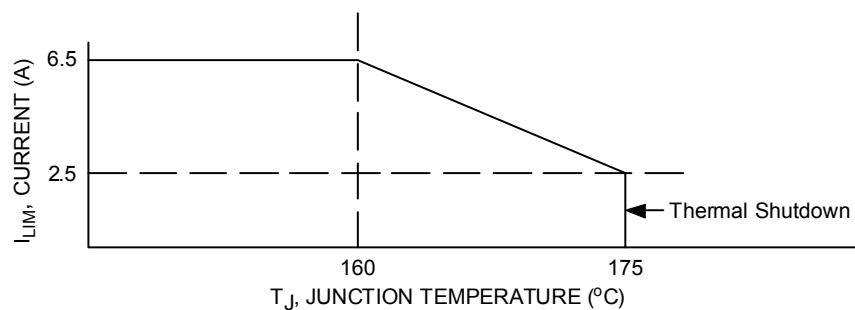
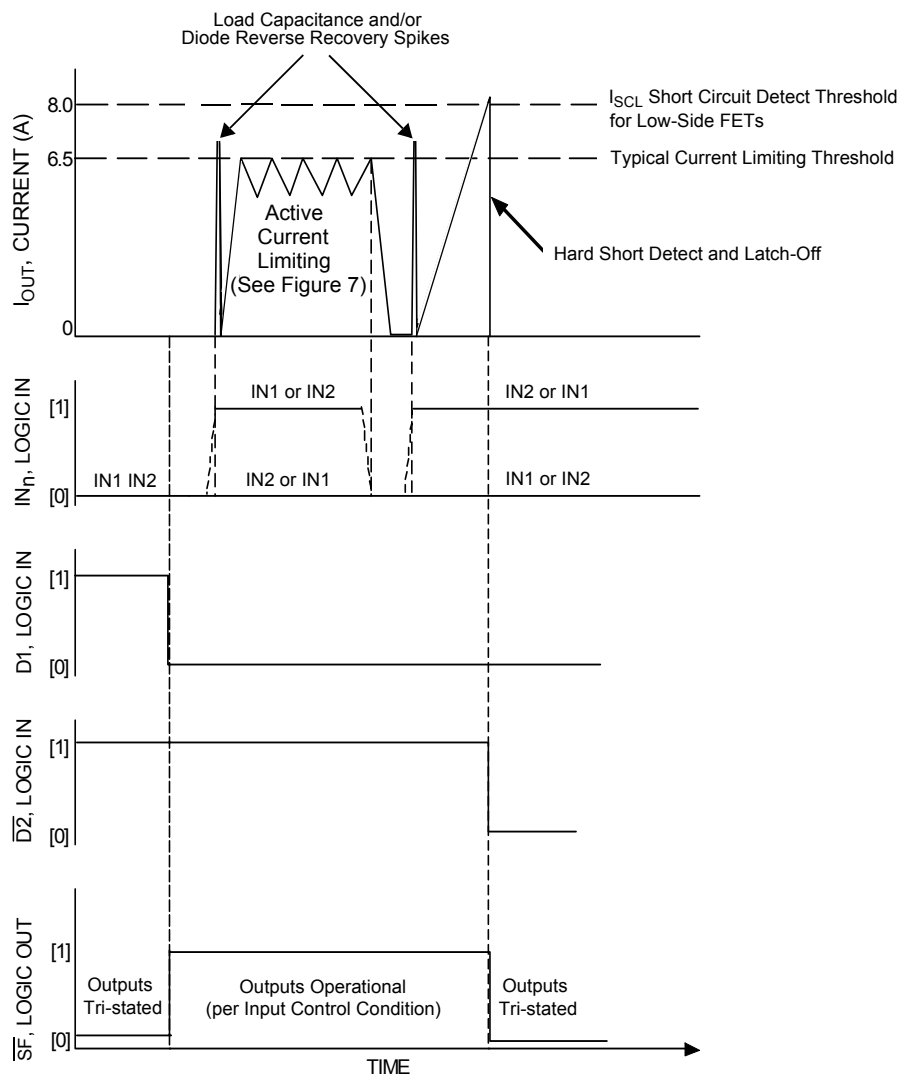

Figure 5. Active Current Limiting Versus Temperature (Typical)
Figure 6. Active Current Limiting Versus Time
26. Increasing currents will become limited at I_{LIM} . Hard shorts will breach the I_{SCH} or I_{SCL} limit, forcing the output into an immediate tri-state latch-OFF. See Figures 6 and 7, page 9. Active current limiting will cause junction temperatures to rise. A junction temperature above 160°C will cause the active current limiting to progressively "fold back" (or decrease) to 2.5 A typical at 175°C where thermal latch-OFF will occur. See Figure 5, page 8.
The current limiting threshold value is dependent upon the device junction temperature. When $-40^\circ\text{C} < T_J < 160^\circ\text{C}$, I_{LIM} is between 5.2 A and 7.8 A. When T_J exceeds 160°C , the I_{LIM} current decreases linearly down to 2.5 A typical at 175°C . Above 175°C the device overtemperature circuit detects T_{LIM} and overtemperature shutdown occurs (see Figure 5, page 8). This feature allows the device to remain operational for a longer time but at a regressing output performance level at junction temperatures above 160°C .